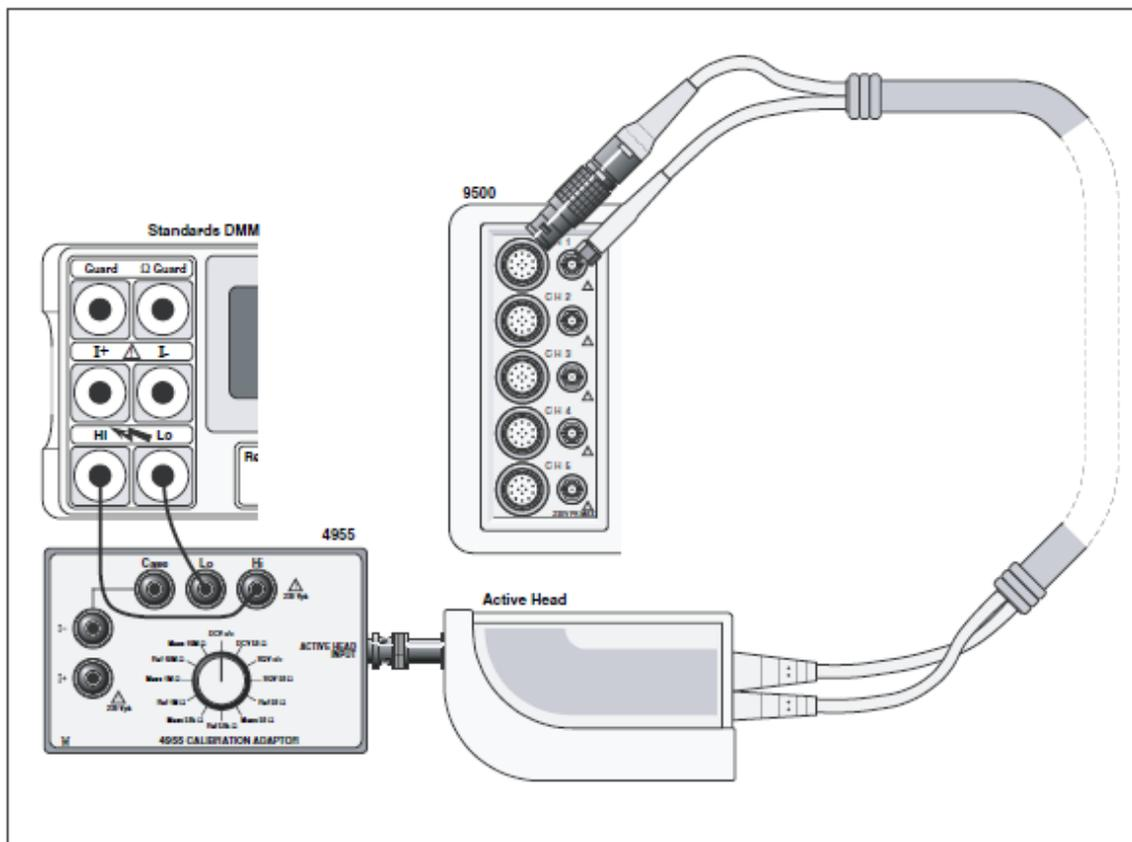

Figure 3. DC/Square; DC Voltage Verification — Interconnections
1. Connections: Ensure that the 9500B is connected to the DMM as shown in Figure 3, or via a similar BNC-4mm adaptor, and that both instruments are powered on and warmed up.
Refer to Figure 3 opposite.